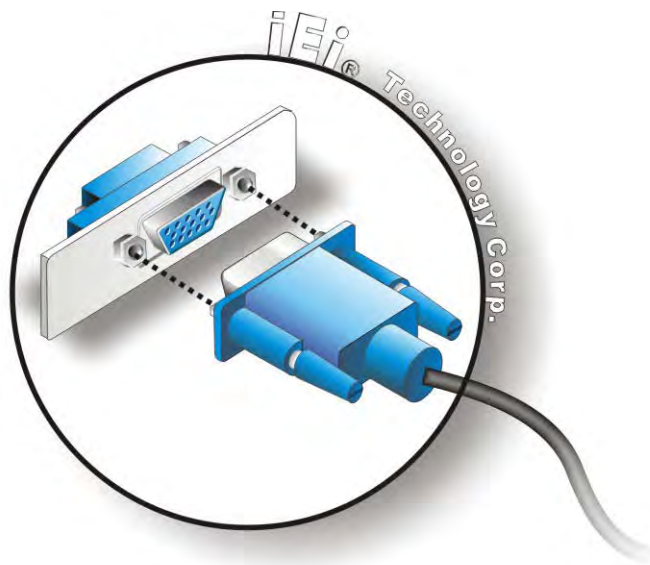

Figure 4-20: VGA Connector
- Step 3: Insert the VGA connector** Once the connectors are properly aligned with the insert the male connector from the VGA screen into the female connector on the IMB-H610. See **Figure 4-20**.